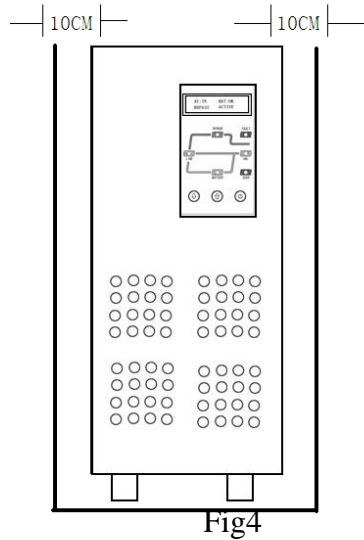

Fig4
b. Maintain a minimum clearance of 100 mm all around the UPS for proper air flow and cooling Fig4.